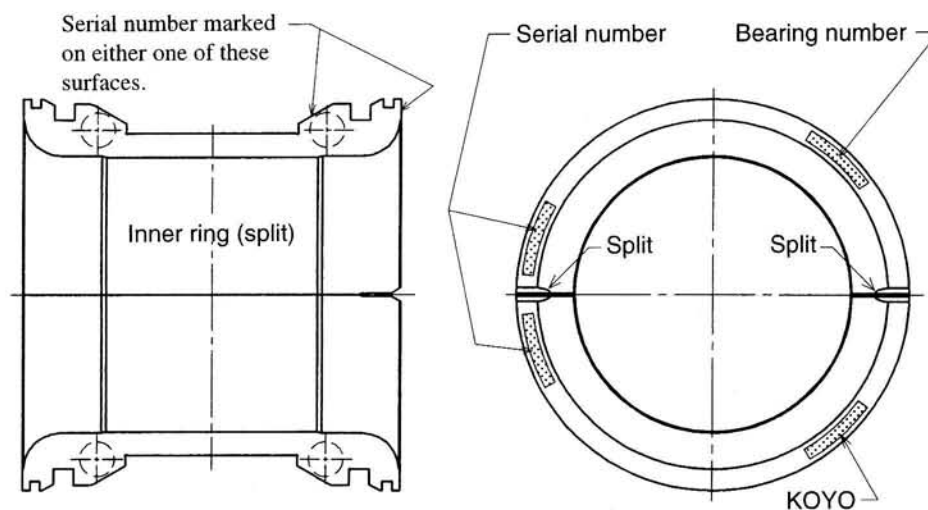

Fig. 2 Serial Number on Inner Ring
2. The serial number is marked at either one of the positions shown in Fig. 2. Make sure that the markings are the same serial number before installation work.